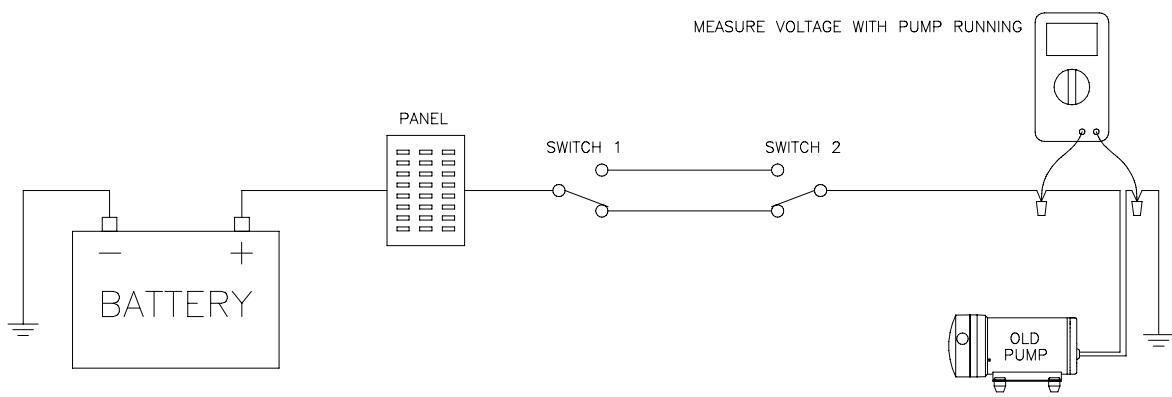
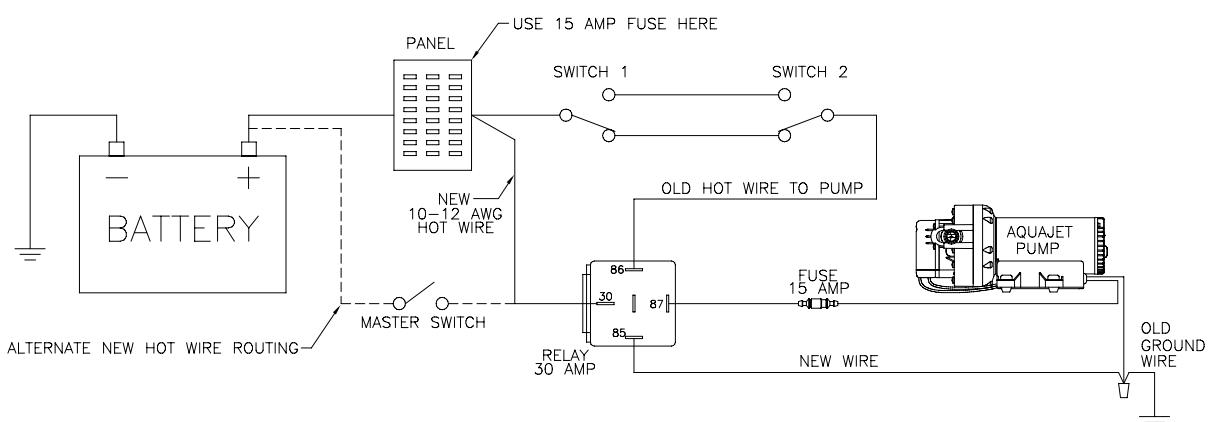
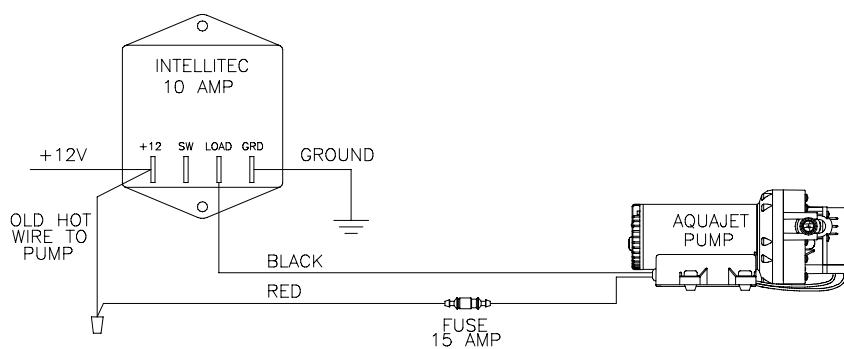

FIGURE 1 TYPICAL RV TWO SWITCH WIRING
FIGURE 2 NEW AQUAJET INSTALLATION
FIGURE 3
- a) Replace it with a 10 or 15 Amp rated controller. For your convenience, Intellitec's phone number is (708) 268-0010.
- b) Procure a 30 Amp rated relay (through either a local automotive store or directly through the Aquatec catalog, product number 20-267) to augment your existing controller. Please refer to schematics figures 3, 4 and 8.
If the voltage drop with your existing pump (typically 5 Amps) exceeds 1 Volt you will need to pull a new heavier (10-12AWG) 'hot' wire to the pump AND use a 30 amp relay (referenced in section 1b above) to connect your Aquajet pump (see figures 1 and 2).
5. At the end of your survey you should have determined how to wire the Aquajet pump. Your alternatives are illustrated in Figure 1 ("no change", also applicable for single switch systems), fig2, fig 3 , fig 4 or fig 8. You should also have determined how to plumb the pump. Your options are fig 5, 6 or 7. Always make sure you have all hardware needed before you start the actual installation.